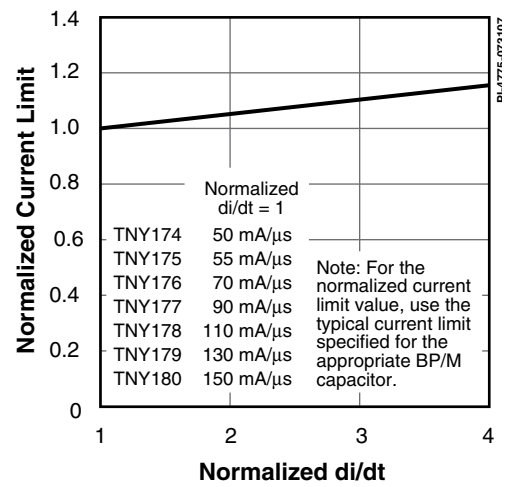

Figure 21. Current Limit vs. di/dt.
- E. For current limit at other di/dt values, refer to Figure 21.